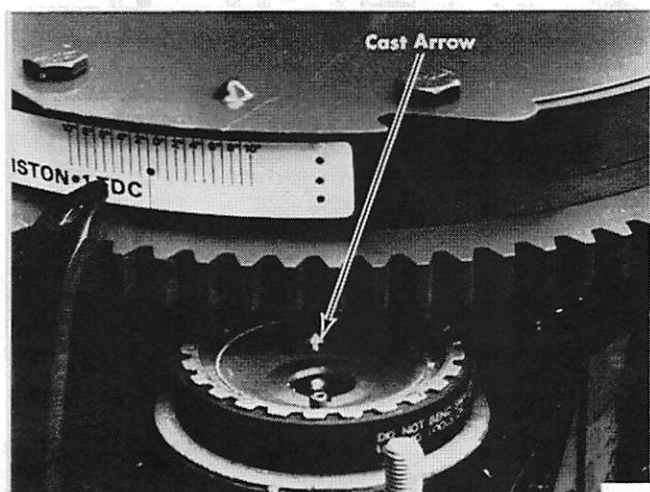

Figure 1. Cast Arrow Aligned with Three Dots
1. Rotate flywheel until "alignment mark" (three dots on flywheel side surface) is aligned with cast arrow on distributor pulley. (Figure 1)